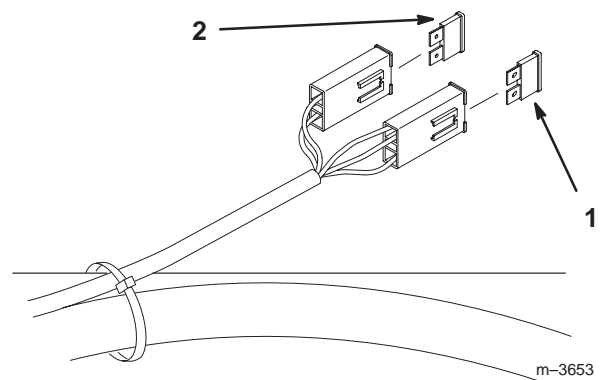

Figure 63
1. Raise the seat to gain access to fuse holder (Fig. 63).
2. To replace the fuses, pull out on the fuse to remove it (Fig. 63).